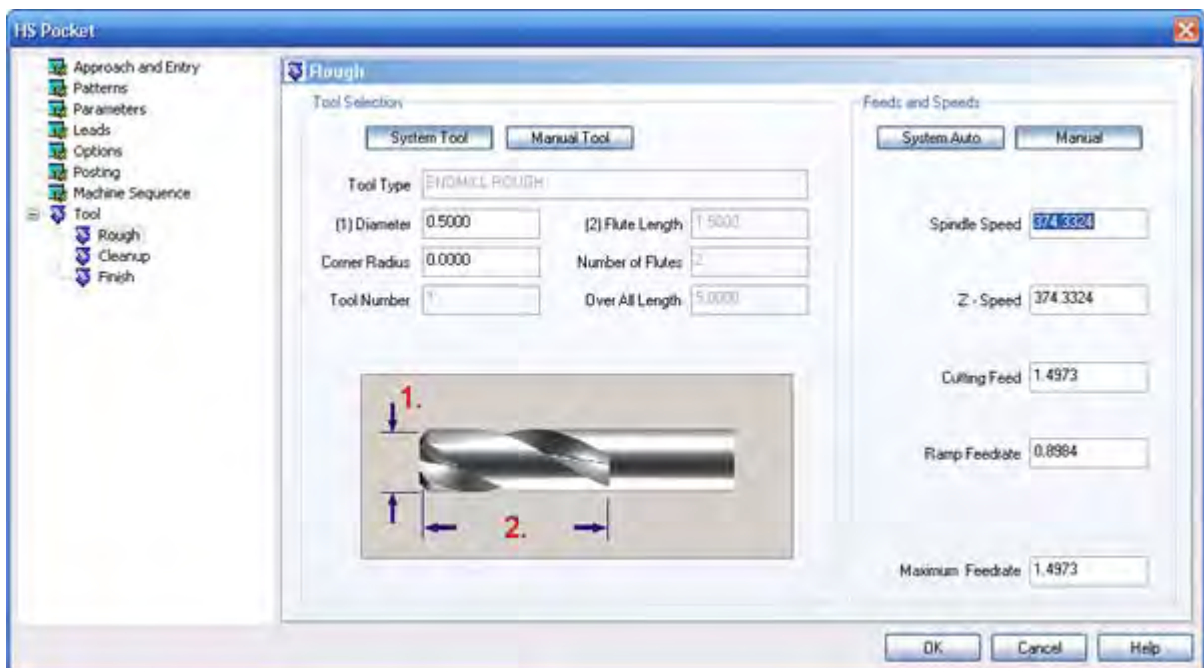

figure 20.1
20. Click on **Rough** underneath **Tool** on the left hand side. Here the **Tool Diameter** and **Corner Radius** values can be entered (figure 20.1). On the right click **Manual** under **Feeds and Speeds** so we can manually input the values that will be applied to the toolpath. Notice that there are 3 feed rate fields. The **Cutting Feed** field is where to enter the maximum feed rate to be used while tool is engaged in the material. The **Ramp Feedrate** field will be the feed rate utilized for the helical entries into the material. The **Maximum Feedrate** field is the feed rate used for the high speed repositioning of the tool from one cut to the next. It is suggested that the highest cutting feed rate of the machine be entered into this field.